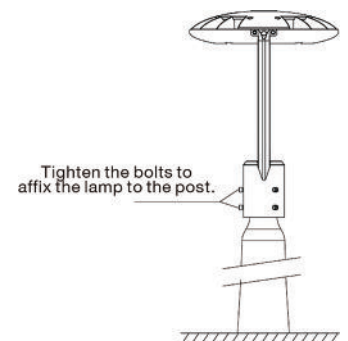

Figure 4
4. Install the lamp on to the pole, adjust the viewing angle, then tighten the bolts with an allen wrench (Figure 4).